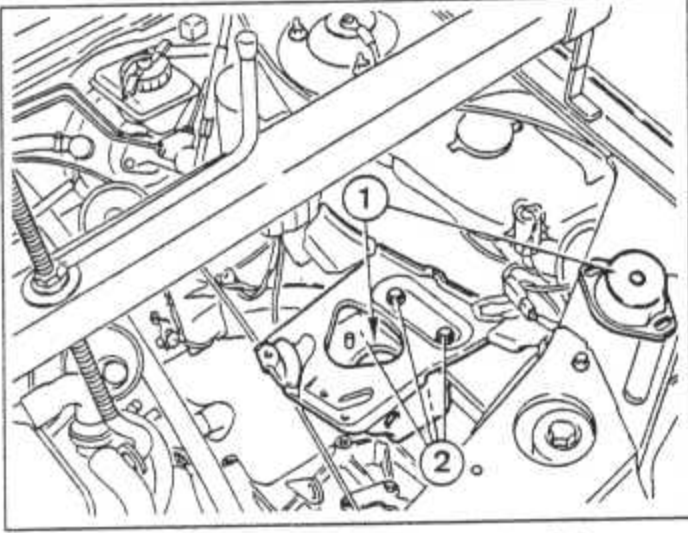

Fig. 13.48 Transmission flexible mounting (1) and battery tray bolts (2) (Sec 14)
- 50 Remove the flexible mounting (1) (Fig. 13.48).